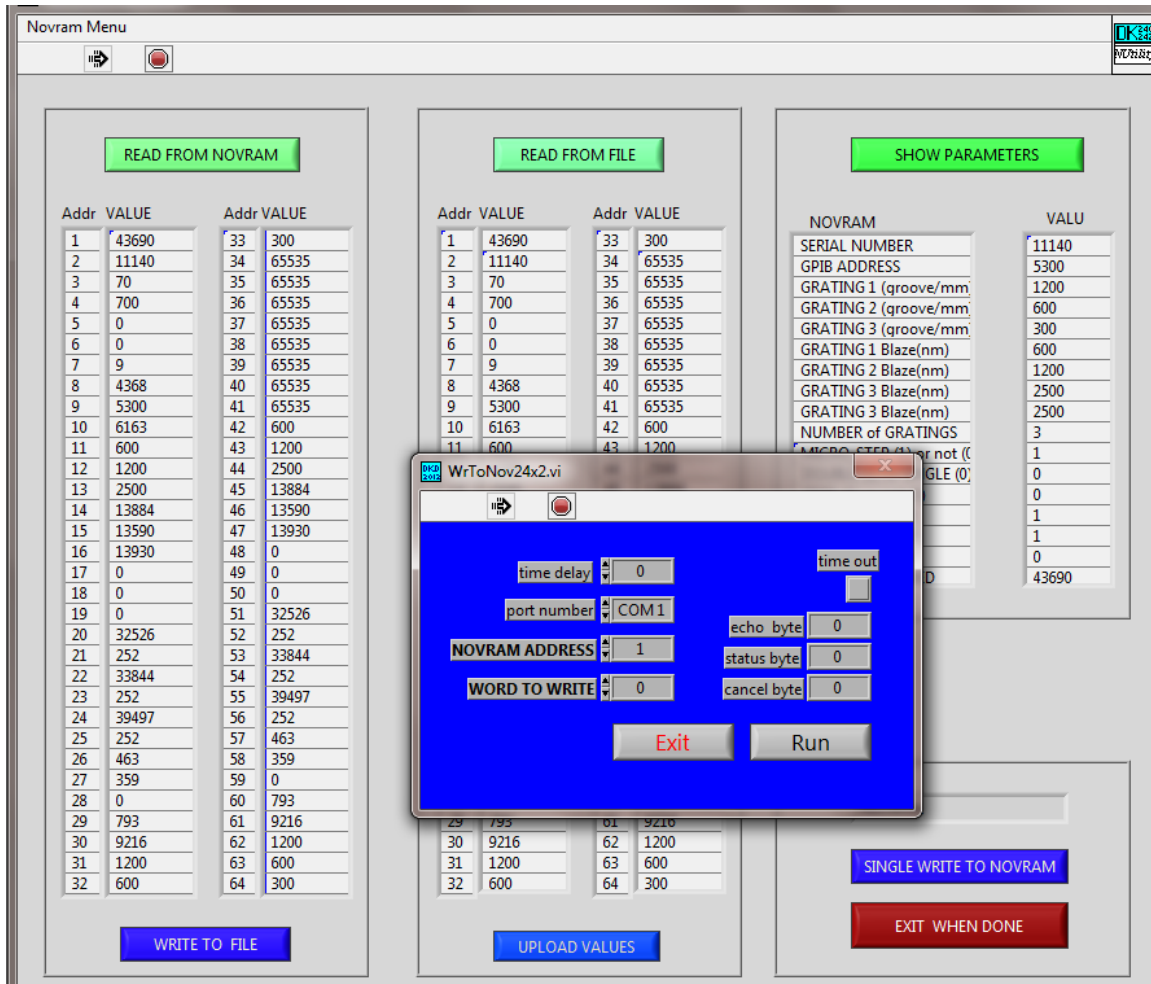

Figure 28. Write to Novram
9.4.7 Single Write to Novram – This function allows the user to change individual Novram address values. This would typically only be used when making a parameter change, such as adding or changing a grating; or when restoring a previous Novram value. A sub vi will pop up (Fig 28). Enter the Novram address you wish to change and then the value you wish to write. Press Run to execute the change, then Exit to quit the vi. Most Novram changes will require a monochromator reset to activate the change. The Exit button closes this vi and returns the user to the home screen.